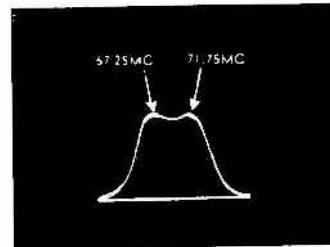

Fig. 19 Channel 4 RF Response.
4. Turn the channel selector to Channel 4 and adjust the sweep generator until a response curve somewhat similar to Fig. 19 is obtained.
5. Study Fig. 4 and adjust the converter grid capacitor (C9), the RF plate capacitor (C8) and the RF grid capacitor (C5) until a response curve similar to Fig. 19 is obtained.